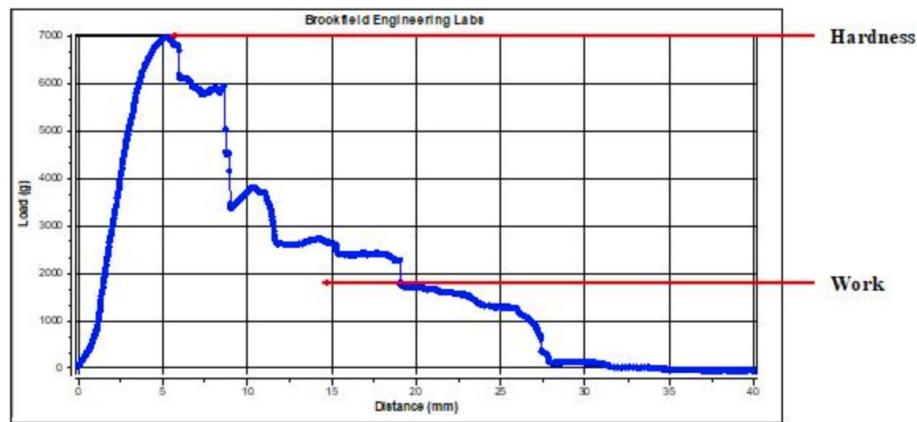

Figure 2
- Figure 2: Load vs. Distance graph shows the work done, calculated as the area under the curve. Fluctuations indicate weaker points within the seal as it stretches and tears.